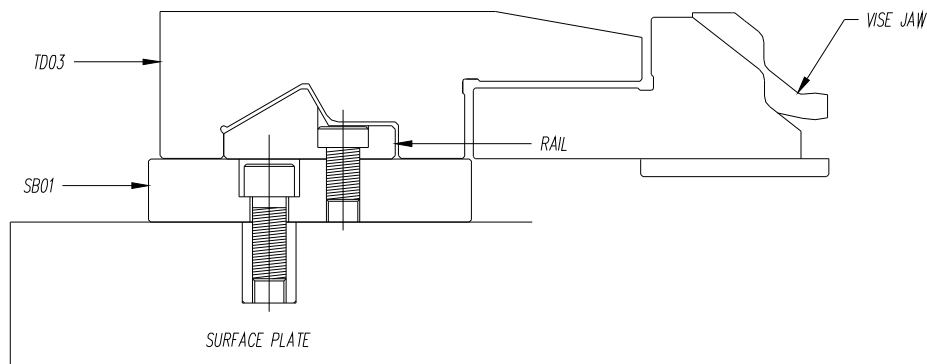

Figure 3
STEP 4. Secure the TD03 truing device and work holder to the R75 rail with the M8 x 25mm cap screw as shown in Fig. 3.